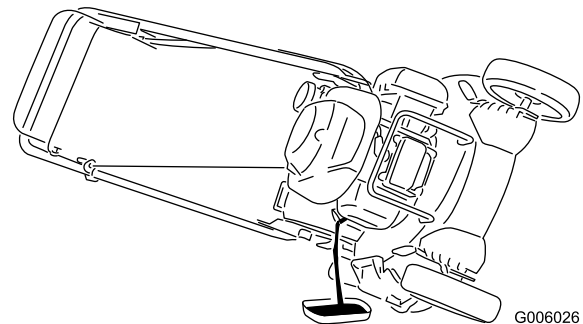

Figure 36
3. Tip the machine onto its side, with the air filter up, to drain the used oil out through the oil fill tube (Figure 36).